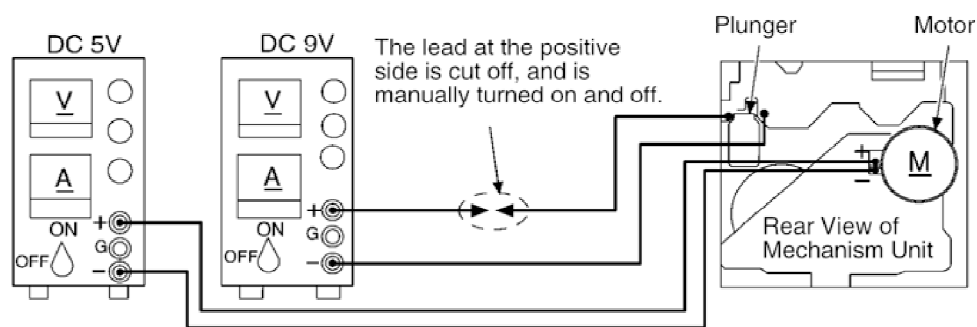

Fig. 5
- E. Set the bottom rib of a tray drive gear to be level. (Figure 5)
2. Supply DC5V to MOTOR. (→ MOTOR rotates.) (Cf. Fig. 5)
4. Supply DC9V to the plunger, and turn the power ON and OFF. (→ Power +PL, -PL) (Cf. Fig. 5)